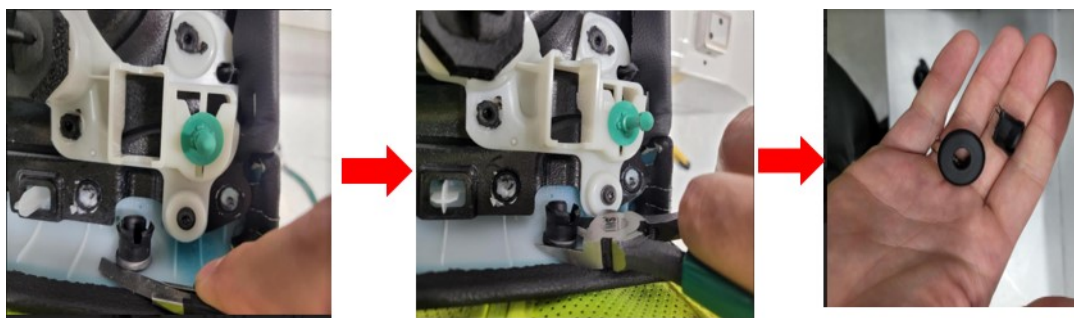

Fig. 2
- Cut the grommet lower portion either with a saw, knife or side cutters as shown below (Fig. 2) .